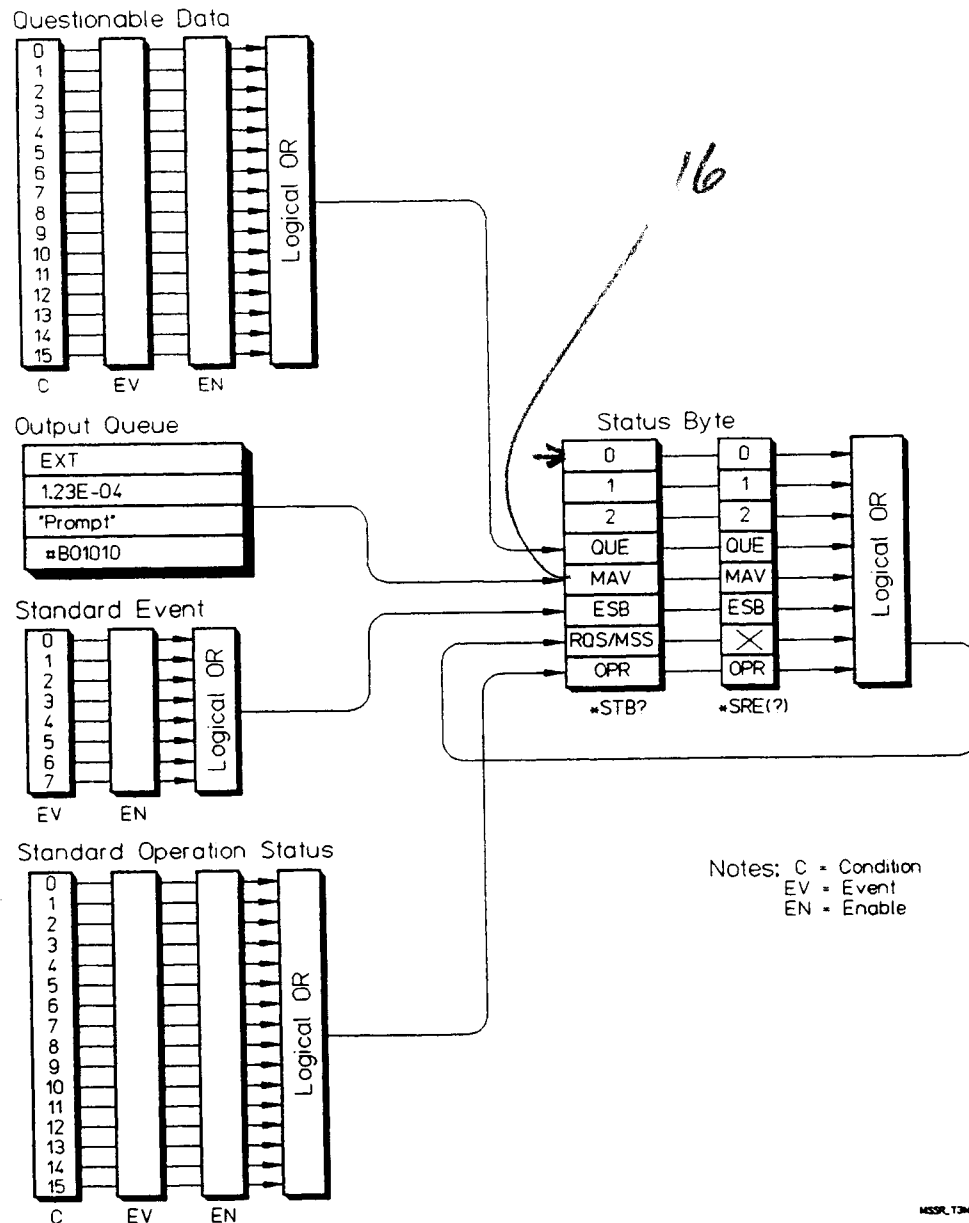

Figure 5-1. Status System Registers
STATUS The STATUS subsystem lets you examine the status of the counter by monitoring the Operation Status Register and the Questionable Data/Signal Register. *Figure 5-1* shows all of the counter's status registers.
The Operation Status Register group consists of a condition (C) register, an event (EV) register, and an enable (EN) register as shown in *Figure 5-1*. The commands in the STATUS:OPERation subsystem control and monitor these registers.
The Questionable Data Register group consists of a condition register, an event register, and an enable register as shown in *Figure 5-1*. The commands in the STATus:QUEStionable subsystem control and monitor these registers.